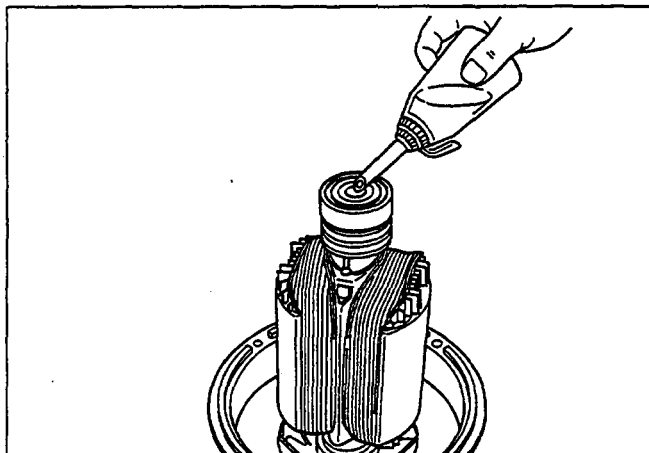
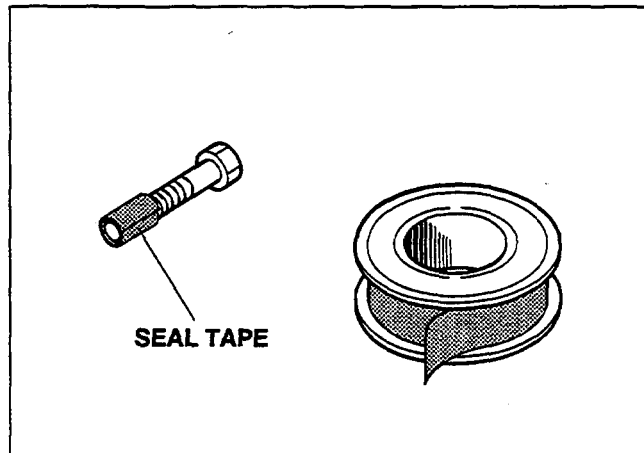

Fig. 10-18
Fig. 10-19
<p>(3) Use a bolt and oil as a tool for pulling out rotor in the following procedures :</p> <ol style="list-style-type: none"> 1. Pour engine oil into the center hole of rotor shaft. Fill with oil to the shaft end. (See Fig. 10-18.) 2. Prepare a bolt with the following thread size : M12 x P 1.5 3. Apply a few turns of seal tape around the tip of the bolt. (See Fig. 10-19.)